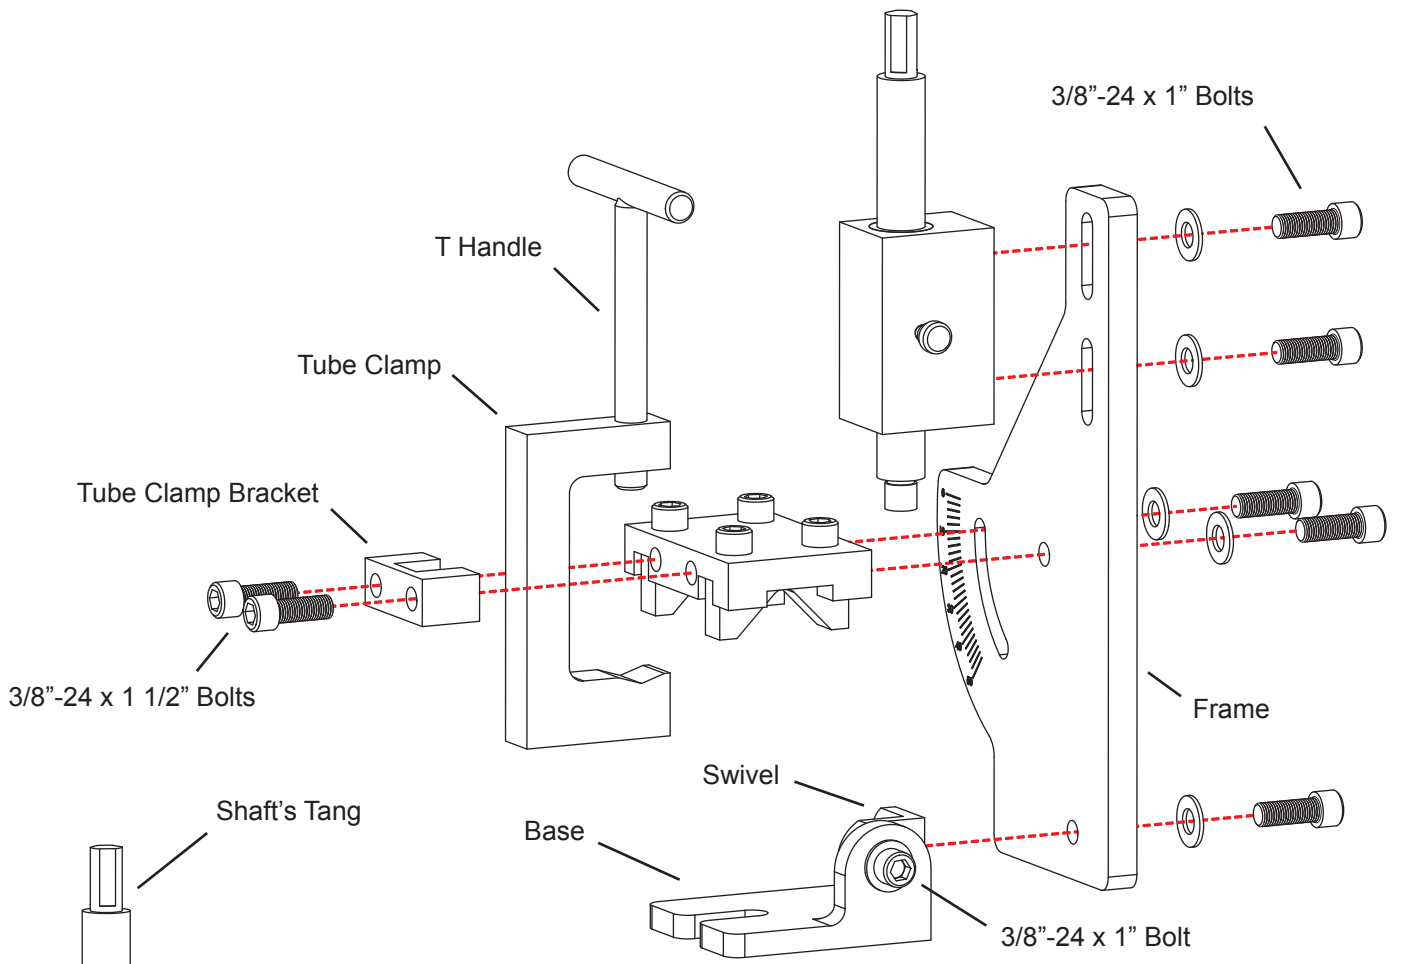

Figure 1 - Exploded View of Complete Notcher
- 4) Screw the T-Handle into the Tube Clamp as shown in figure 1.
- 5) Using one 3/8"x1" bolt and washer, attach the Swivel onto the Base as shown in figure 1. Next using one 3/8"x1" bolt and washer install this Base assembly onto the frame. *Note: The Base and swivel are for operation of the notcher in the vertical position. Since this is NOT the recommended way to operate the notcher you may omit this step and leave the Base assembly off the notcher if desired. The advantages and operation of the notcher horizontally is explained later.*